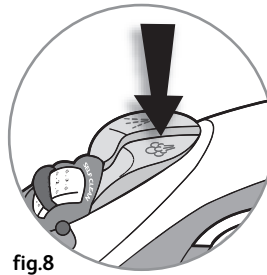
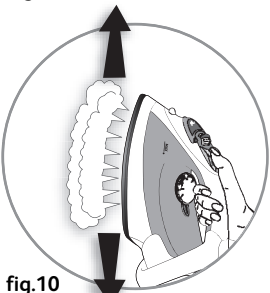

fig.8
fig.10
- Press the **Boost** button  now and again to remove stubborn creases (**fig.8**).
- Press the **Boost**  button repeatedly (**fig.8**) moving the iron from top to bottom (**fig.10**).